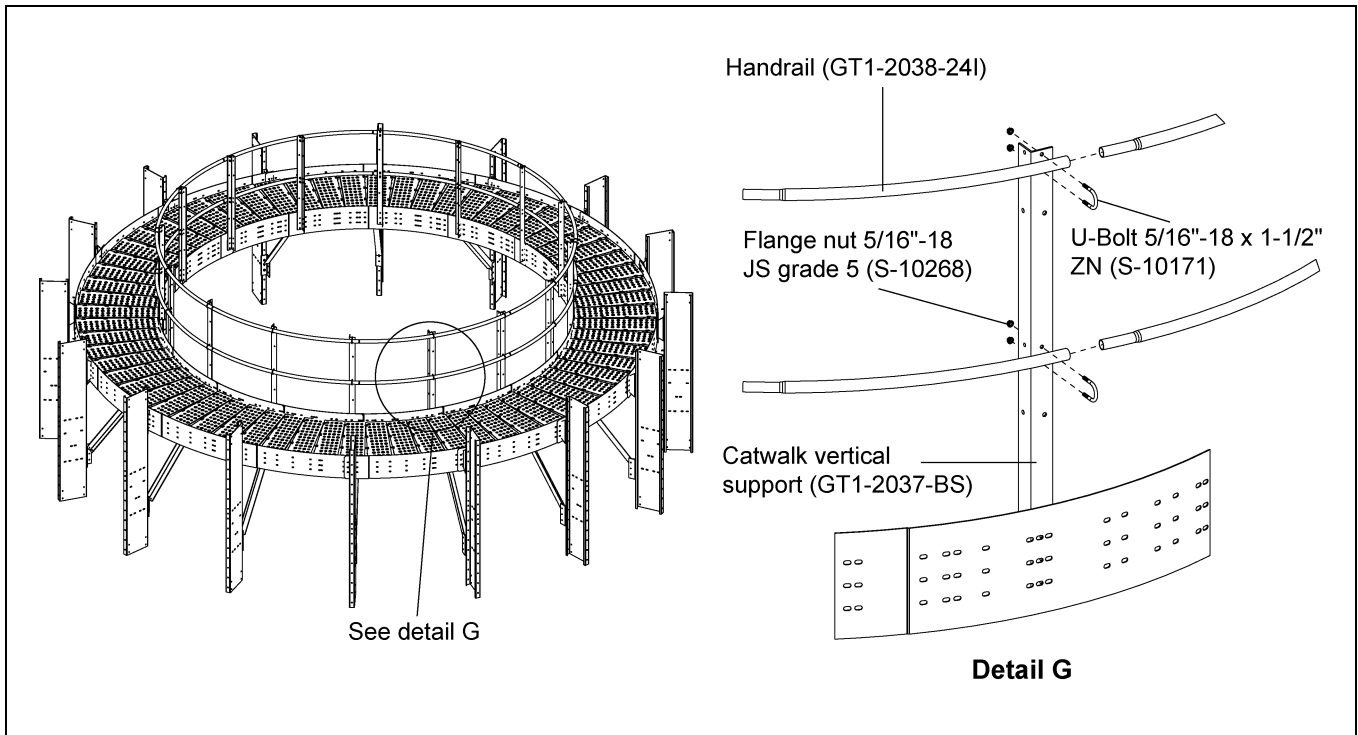
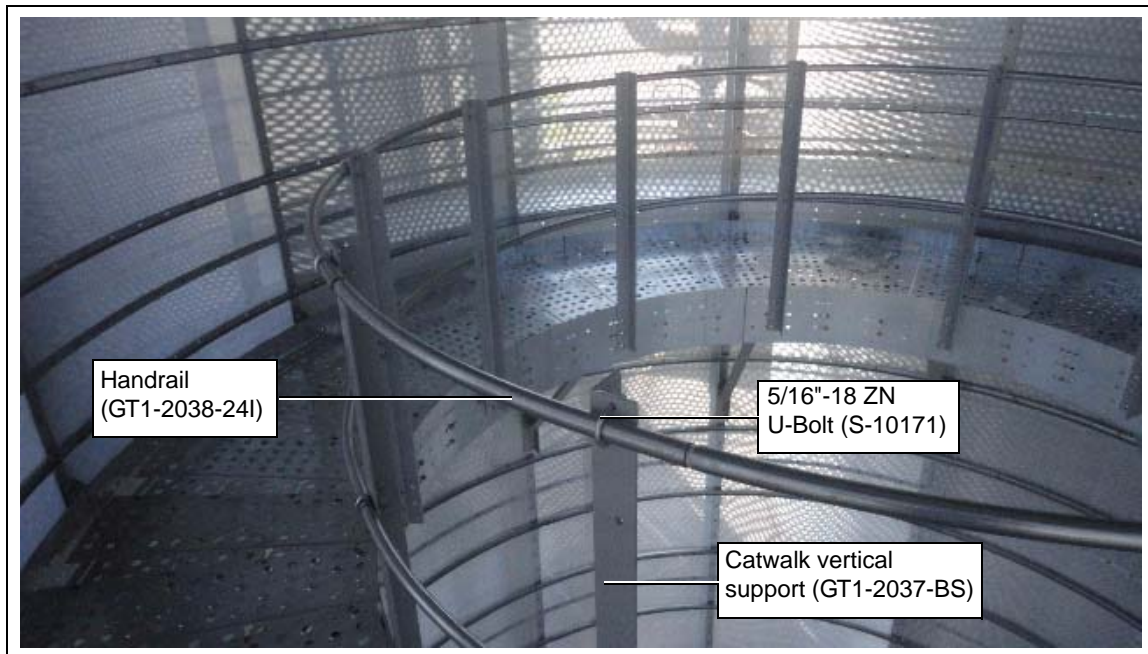

Figure 5L
Figure 5M
1. Install the handrail (GT1-2038-24I) to the catwalk vertical support (GT1-2037-BS) using 5/16"-18 ZN U-bolts (S-10171) and 5/16"-18 JS grade 5 nuts (S-10268) to tighten the handrail with vertical post. (See Figure 5L and Figure 5M.)